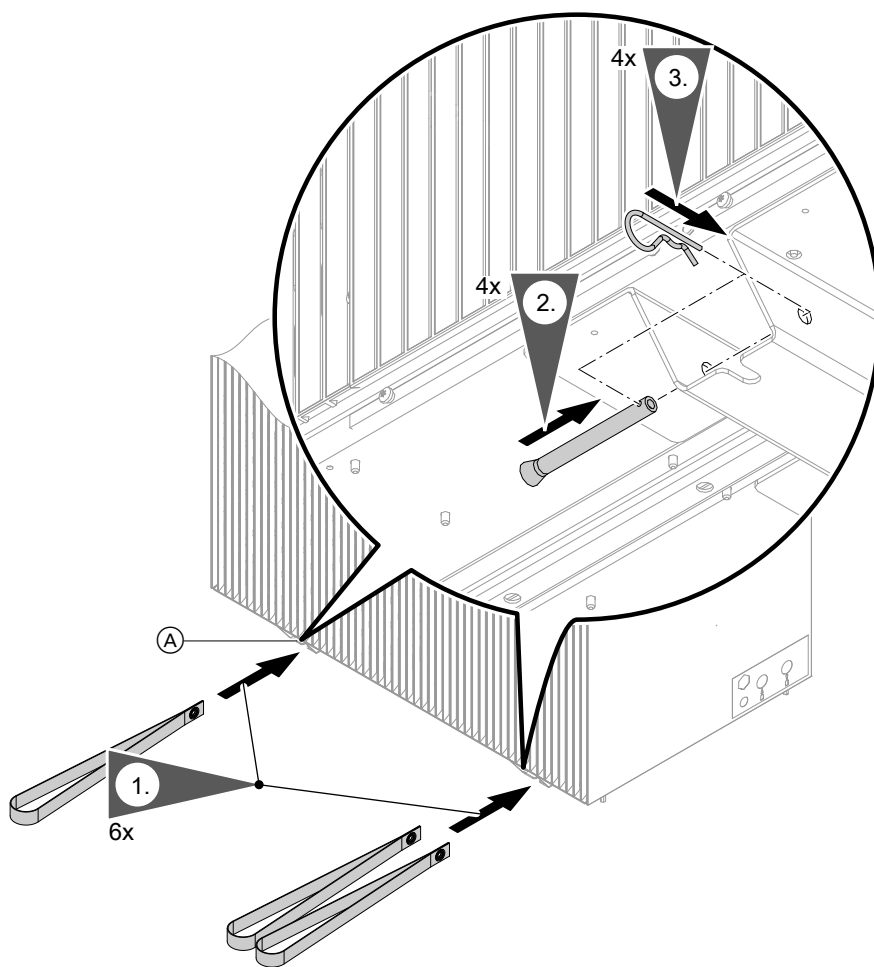

Fig. 6
- Outdoor units with 2 fans: Due to the unequal weight distribution at the front and rear, 1 transport aid on the left-hand mounting rail and 2 transport aids on the right-hand mounting rail: See Fig. 6.